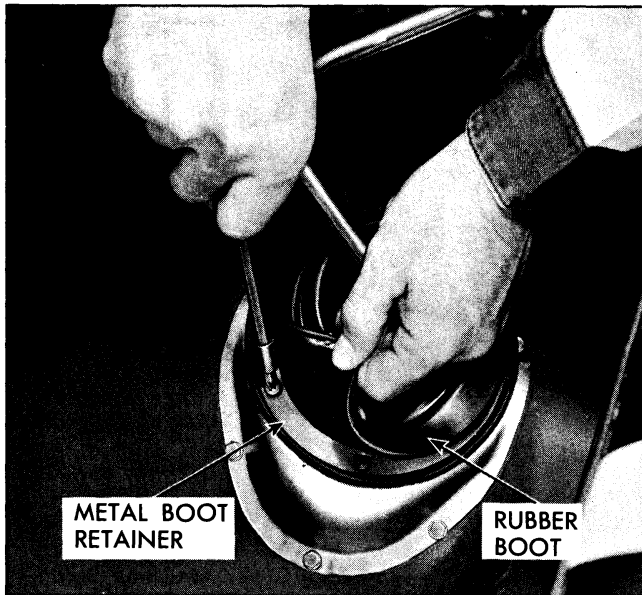

Fig. 7B-11 Removing Rubber Boot and Retainer
2. Remove six metal boot retainer to floor plate attaching screws (Fig. 7B-11), and slide boot over shift stick.
3. Disconnect the speedometer cable from speedometer driven gear fitting and disconnect back-up light leads from back-up light switch (Fig. 7B-8).